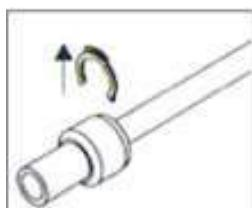

Fig. 1
1. Remove the safety clip from the quick-release fitting (if any) (Fig.1).